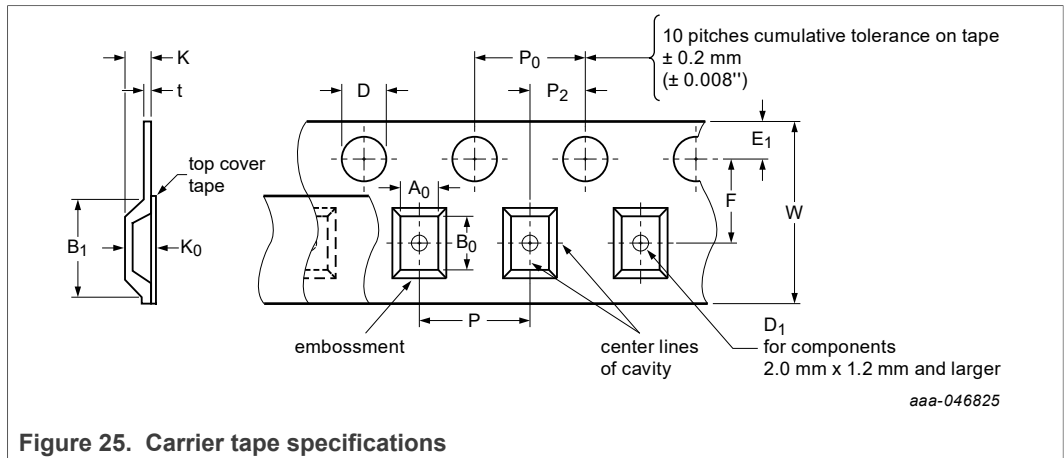
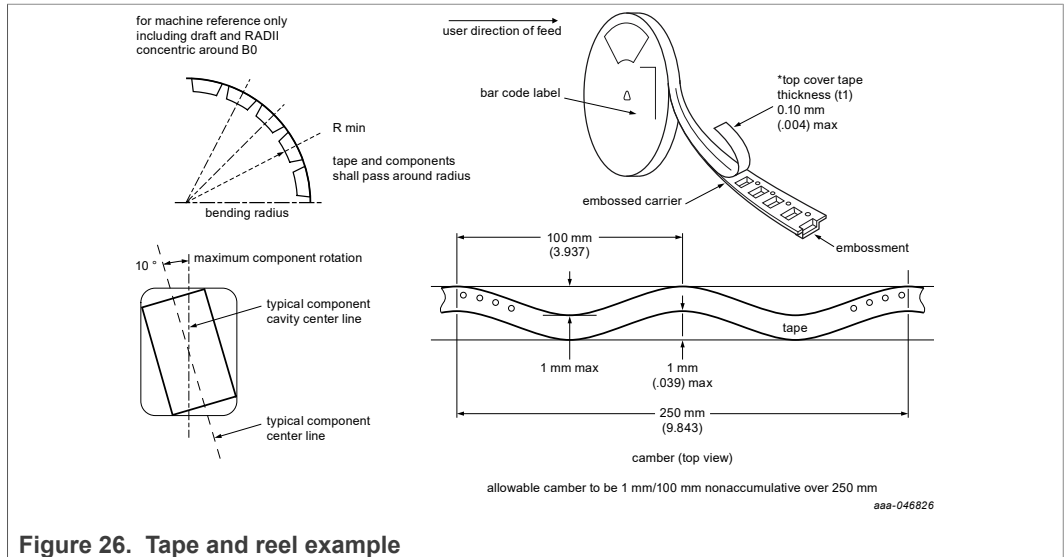

Figure 25. Carrier tape specifications
Figure 26. Tape and reel example
- NXP complies with EIA-481-E[15] for carrier tape and reel configuration, see Figure 25 and Figure 26.